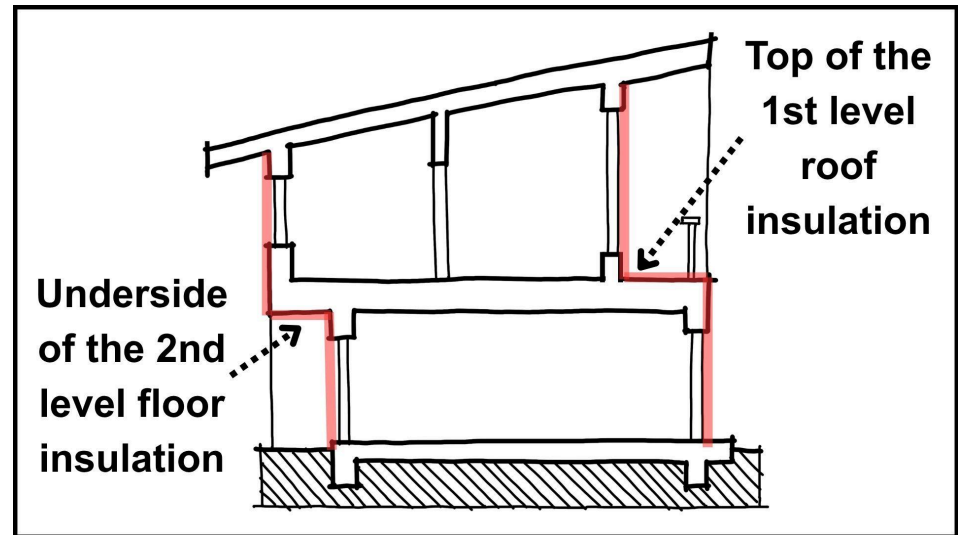

Figure 2.5. Section diagram showing where you would extrude a floor plan to the underside of floor insulation and to the topside of roof insulation.
- a. If different floors have significantly different layouts, extrude the ground floor plan only to the level of the top of the roof insulation (if the next level is smaller) or to the underside of the floor insulation (if the next level is larger) of the varying floor plan (Figure 2.5). Then, import the architectural plan for that level at the height of the top of the extruded polygon. Repeat step 2.